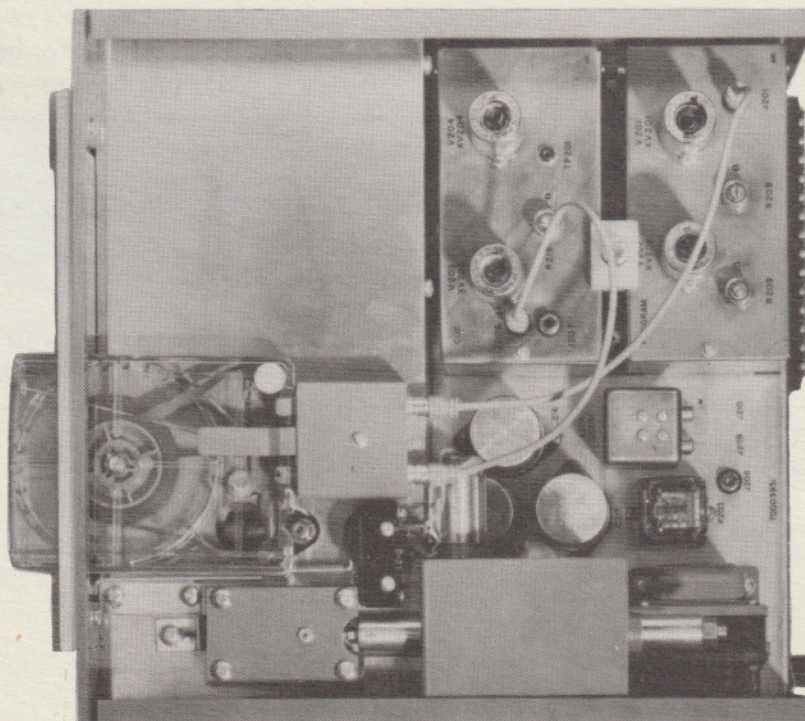

Figure 2-4
Remove the top cover of the Playback Unit and disconnect the cable between J-210 and J-201. Disconnect the cable between J-207 and J-208. Disconnect the cable connected to J-209 and connect that end to J-201. Refer to Figure 2-4. Proper connections for Playback operation only are:
3.2.4 PROGRAM GAIN. Refer to Figure 2-4. The GAIN control, R-209, adjusts the playback output level.
- a. Insert a recorded tape cartridge into the right side of the slot as shown in Figure 2-4.
- a. Insert an erased tape cartridge into the right side of the slot, as shown in Figure 2-4.